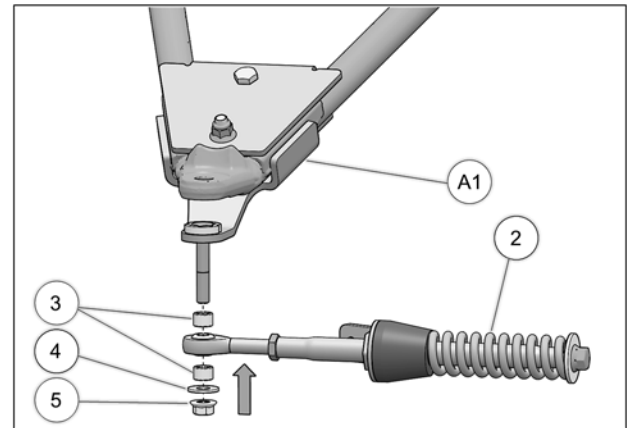

Fig. 19
10. Attach the stabilizing rod (2) to the anchor bracket (A1), using the two spacers (3), washer (4), and nut (5). Torque to 70 N•m [52 lb•ft]. Refer to Fig. 19